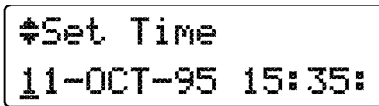

Figure 5: The Set Time display
1. Once in the Utility menu, use the ▲ and ▼ keys to scroll to the Set Time item, and press **Enter**. The instrument display will change to resemble Figure 5.